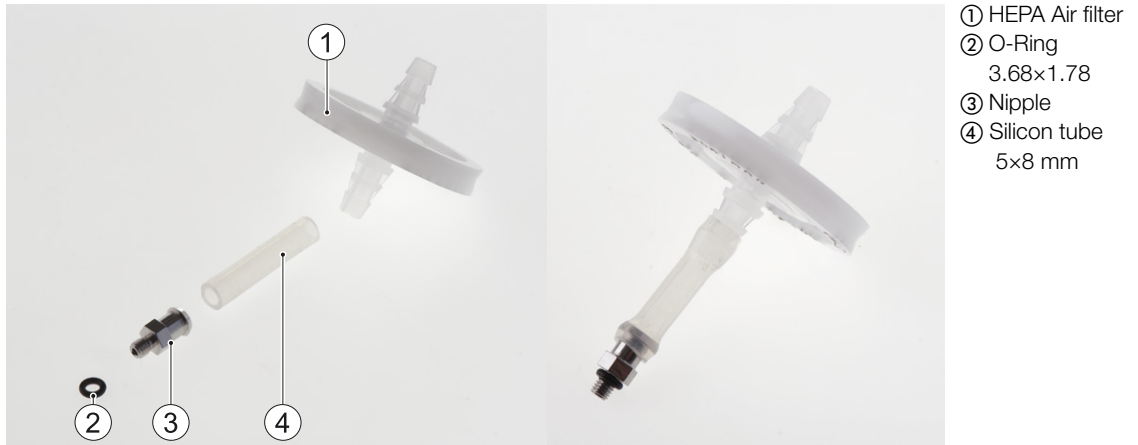

Figure 5-10: Airfilter - exploded view (left), assembled view (right)
| ② Air filter, see Fig. 5-10 | ⑥ O-Ring (31.42×2.62) |